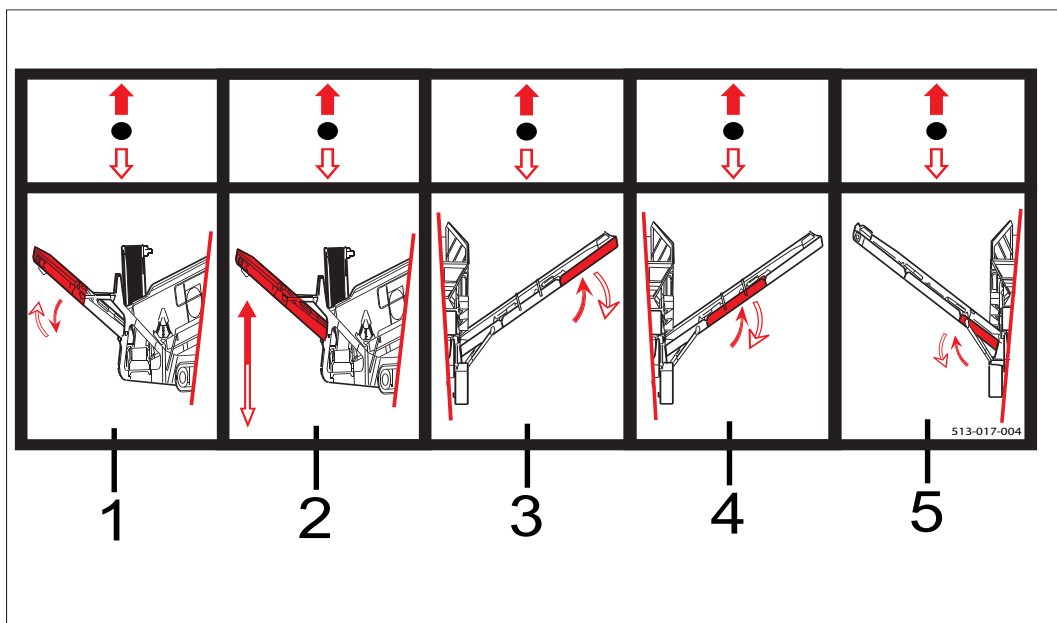

Figure 5.23 - LHS Control Bank Decal
4. Use lever 3 (Reference: Figure 5.23) to fold in the head section approximately 30% to give some slack on the belt.
7. Return to the LHS of the machine and use lever 4 (Figure 5.23) to fold the mid-section over the top of the machine.
8. Fold the remainder of the head section into position using lever 3 (Figure 5.23).